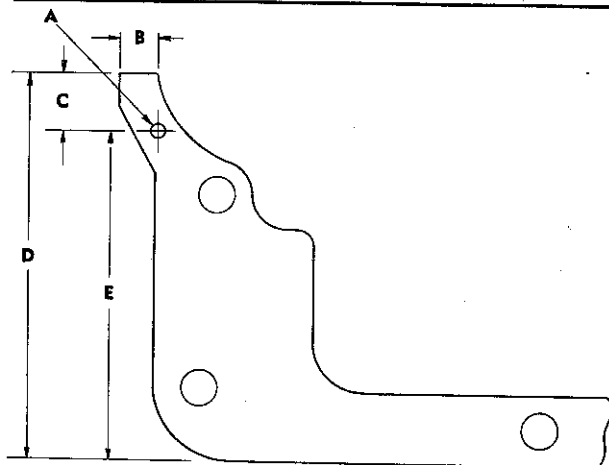

FIG. 87—OIL PAN GASKET HOLE LOCATION
**NOTE:** Where an engine has a filler block with dowel pins (see paragraph headed **CRANKSHAFT REAR OIL SEAL**) the oil pan side gaskets must have matching holes shown as A in Fig. 87. It is possible to have new oil pan side gaskets without these holes. When required, locate and make the holds in the gaskets using the dimensions given in Fig. 87.